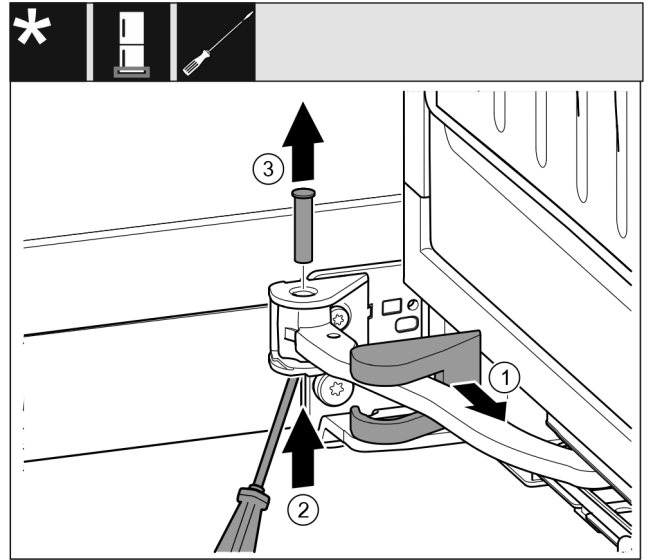

Fig. 15
- ▶ Remove the bearing bracket cover and push it along the hinge. Fig. 15 (1)
- ▶ Lift the bolt with a finger or screwdriver from below. Fig. 15 (2)
- ▶ Insert the screwdriver under the bolt head and pull it out. Fig. 15 (3)